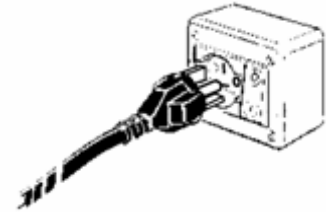

Fig. 2
- For the system to be installed correctly and safely, it is essential to provide a suitable socket which complies with the national safety standards in force (see Fig. 2).